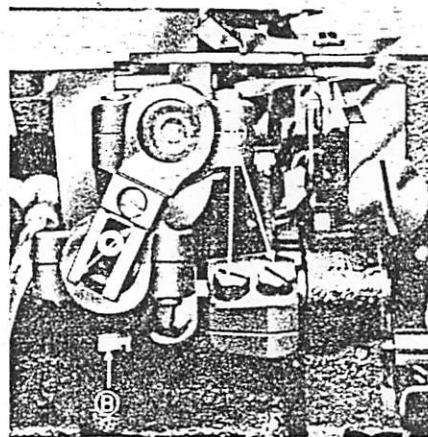

Fig. 33
3. To adjust the operating distances of the looper, first loosen two set screws (A) (Fig. 33) for the overlooper lever and then set the underlooper to the standard distance given in paragraph 1.
4. Next, turn the pulley and check the overlooper if it has the correct clearance with the needle as mentioned in paragraph 2. If the clearance is smaller than 9mm loosen the overlooper crank ball joint set screw (B) (Fig. 33) and move the overlooper crank ball joint to the right. If the clearance is larger than 9mm, move the same ball joint to the left.
Upon completion of the adjustments, be sure to re-tighten the overlooper crank ball joint set screw (B) (Fig. 33) and the overlooper lever set screw (A) (Fig. 33) securely.
- (a) Loosen screw (A) and adjust overlooper lever.
- (b) Loosen screw (B) and adjust ball joint.
(Fig. 33)